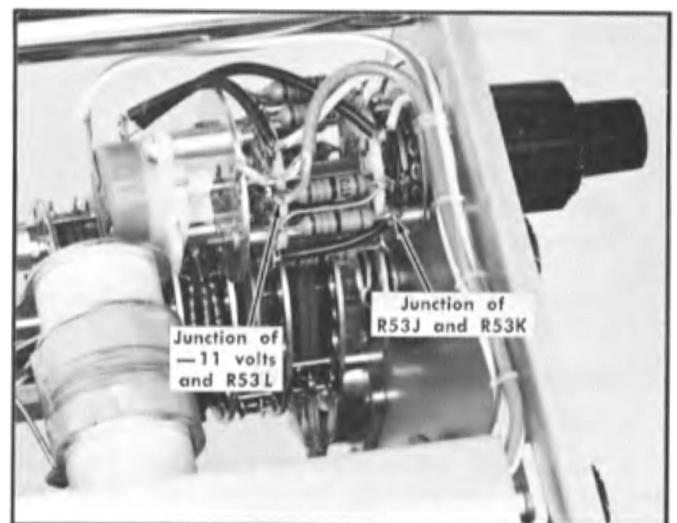

Fig. 6-10. Location of -11 volt end of R53L and the junction of R53J and R53K.
- b. Connect the negative lead of a precision DC voltmeter to the -11 volt end of R53L; see Fig. 6-10.
- c. Connect the positive lead of the precision DC voltmeter to the junction of R53J and R53K; see Fig. 6-10.